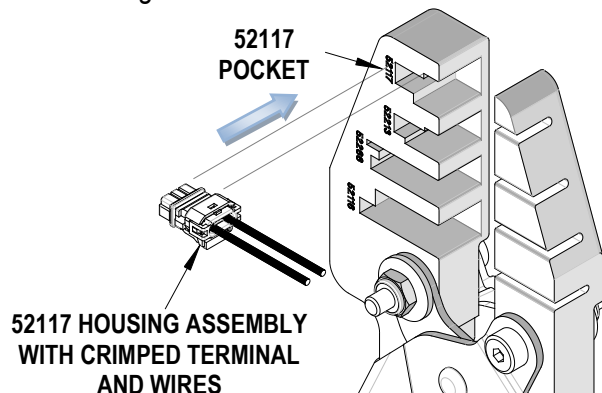

Figure 3
2. Assemble the specified crimp terminals with wires into the 52117 connector housing assembly (2 circuits shown, 3 circuits available). See Figure 3.